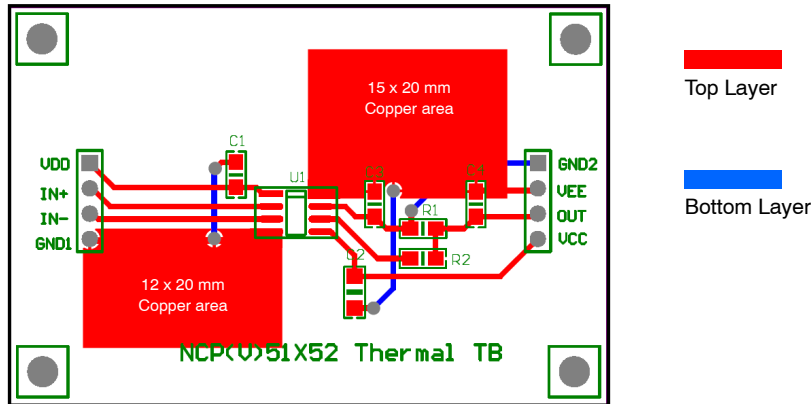

Figure 4. Reference Layout for the Type–A
7. As specified for a reference layout shown in Figure 4. The DUT is mounted on a 60 x 40 x 1.6 mm FR4 substrate with an additional heat spreading copper of 240 mm2/300 mm2 (Primary/Secondary). The copper thickness is 1 oz and test conditions is under natural convection or zero air flow.